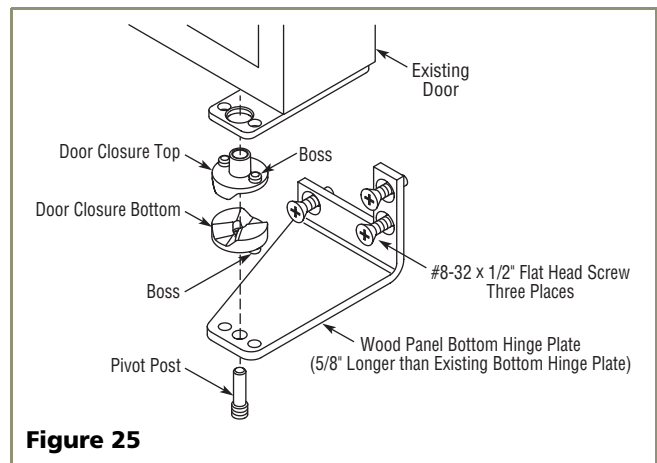

Figure 25
4. Replace the door closure assembly onto the bottom pivot post (see **Figure 25**). Be sure that bosses on closers align with holes in hinge and hinge plate.